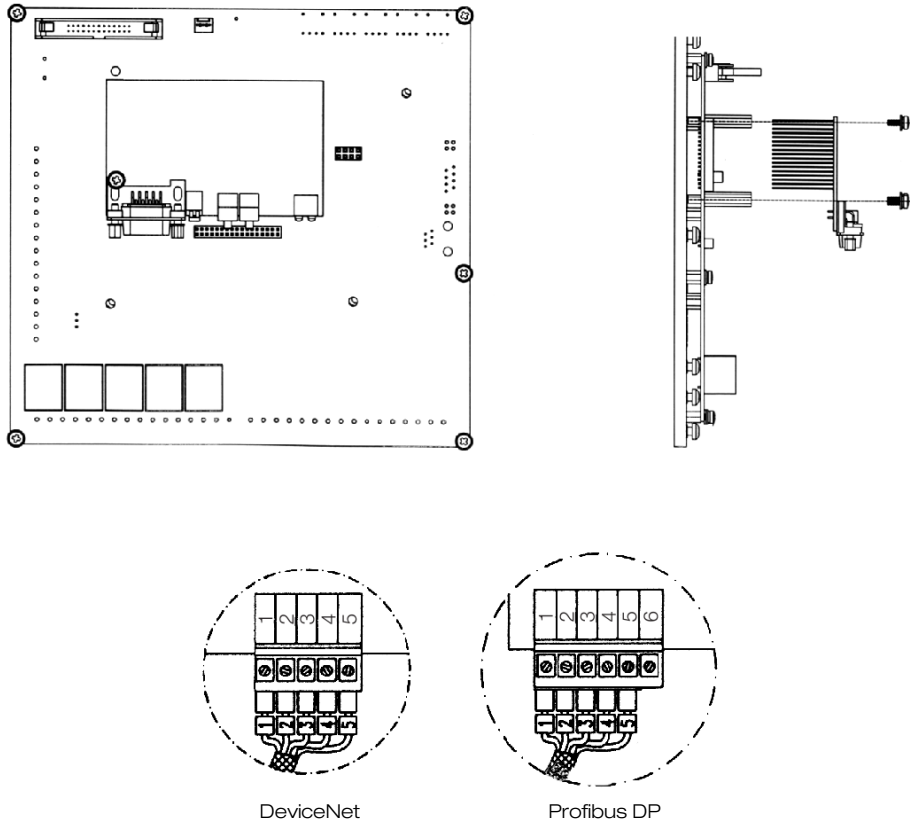

Figure 7.1: Installing the Fieldbus electronic board
3. Carefully insert the pin bar connector of the Fieldbus electronic board into the XC140 female connector of the MVC4 control board. Check the exact match of all the pins of the XC140 connector according to Figure 7.1 on page 7-3 .